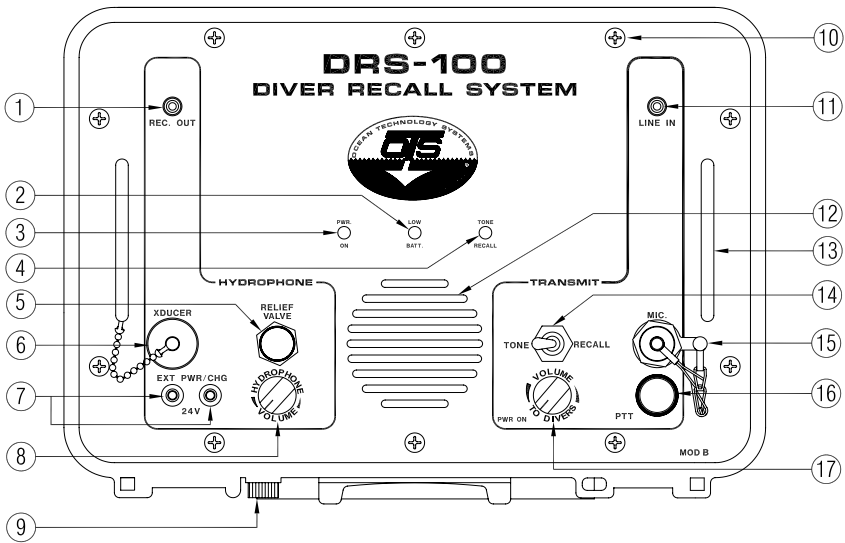

Figure 1. Features of the DRS-100B
Refer to Figure 1. Terms in all capital letters correspond to the labels on the DRS-100 panel.
3. Fully close the relief valve (Fig. 1, #5) on the panel by rotating it clockwise.
4. If you will use an external power source, connect its banana plugs to the “EXT PWR/CHG” jack (Fig. 1, #7) on the DRS-100 panel, being careful to observe polarity (match the red and black). Activate the external power source, if necessary, but leave the DRS-100 power off. If you will use the internal batteries, proceed to Section 3 (Batteries and Charging, p. 7) before continuing.
5. Remove the protective cover from the transducer receptacle (Fig. 1, #6).
2.2.1 POWER AND VOLUME CONTROL: To activate the unit’s power, rotate the “To Divers” (transmit) volume control (Fig. 1, #17) clockwise. The green “PWR ON” LED (Fig. 1, #3) should illuminate. To adjust the hydrophone listening volume, turn the hydrophone volume control (clockwise rotation increases the volume).
2.2.2.1 Tone/Recall Mode: For tone transmission, move the “TONE/RECALL” switch (Fig. 1, #14) either right for *intermittent tone* or left for *continuous tone*. The tone/recall LED (Fig. 1, #4) illuminates *green* when the DRS-100 is in intermittent tone mode and *red* when in continuous tone mode.
2.2.2.2 Voice Communication: For voice communication to divers or swimmers, set the transmitter volume (Fig. 1, #17) to about half volume. If you will use a hand-held microphone (e.g., the HSM-10) with a push-to-talk (PTT) switch, insert the microphone connector into the jack (Fig. 1, #15), depress the PTT button, and talk into the microphone. Otherwise, press and hold the PTT switch (Fig. 1, #16) and talk into the front-panel speaker (Fig. 1, #12). To increase the transmission volume, rotate the transmit volume control (Fig. 1, #17) clockwise. Release the PTT button when you have finished transmitting.
2.2.2.3 External Audio: To transmit audio from an external source, connect an RCA plug leading from the source to the DRS-100’s “line-in” jack (Fig. 1, #11).
2.2.3 RECORDING: To record audio signal received from the hydrophone or that you transmit into the water, insert a male RCA plug into the record-out jack (Fig. 1, #1). Connect the other end to your recorder’s microphone input.
When the low-battery LED (Fig. 1, #2) begins to flash red, the battery voltage has decreased to 20 volts. Although the DRS-100 can operate with as little as 12 volts, we recommend that you recharge the batteries (Section 3.1) as soon as possible after the LED starts to illuminate. If the batteries no longer hold a charge, replace them (Section 3.2).
2. Turn the relief valve (Fig. 1, #5) fully counterclockwise to open it.
3. Locate the 24-volt “EXT PWR/CHG” jack (Fig. 1, #7), and insert the plugs (+ red and – black) from the RCS-30 smart charger.
- **Batteries can excrete hydrogen gasses during the charging cycle. To minimize gas build-up, open the pressure relief valve (Fig. 1, #5) on the panel while recharging the batteries. Do not release the pressure relief valve and turn on the DRS-100 until a minimum of 15 minutes have elapsed after the charging cycle has been completed and the charger is disconnected from the front panel. *Failure to follow this procedure may result in damage to the unit or serious injuries due to an explosion!!!***
1. Remove the ten front-panel screws (Fig. 1, #10).
2. Gently remove the control panel by pulling on the handles (Fig. 1, #13).